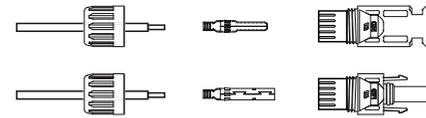
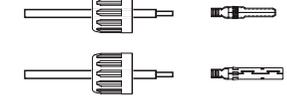

Figure 5.17 Disassemble the Connector Cap nut
Figure 5.18 Insert the Wire into the Connector Cap nut and contact pin
1. Strip off the DC wire for about 7mm, Disassemble the connector cap nut. (see Figure 5.17)
2. Insert the wire into the connector cap nut and contact pin. (see Figure 5.18)
5. Measure PV voltage of DC input with multimeter, verify DC input cable polar (see figure 5.17), and ensure each string of PV voltage in range of inverter operation. Connect DC connector with inverter until hearing a slight clicking sound indicates connection succeed. (see figure 5.18)